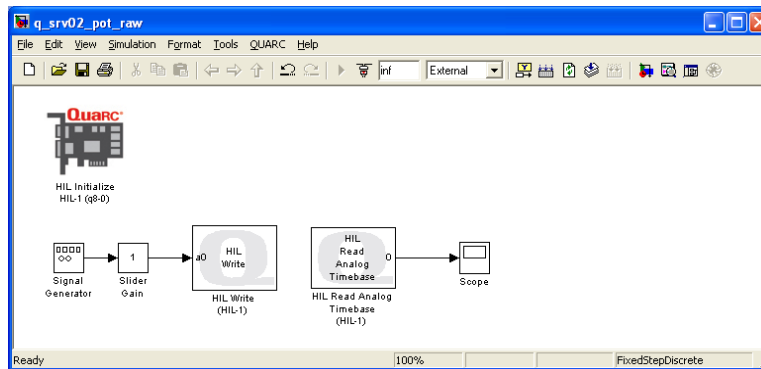

Figure A.6: Simulink® model used with QUARC to read potentiometer
Follow the procedure below to design the Simulink® diagram as shown in Figure A.6 to read the potentiometer voltage.
3. Add a Scope block from the Simulink® | Sinks folder in the Library Browser and connect it to the output of the *HIL Read Analog Timebase* block, as shown in Figure A.6.